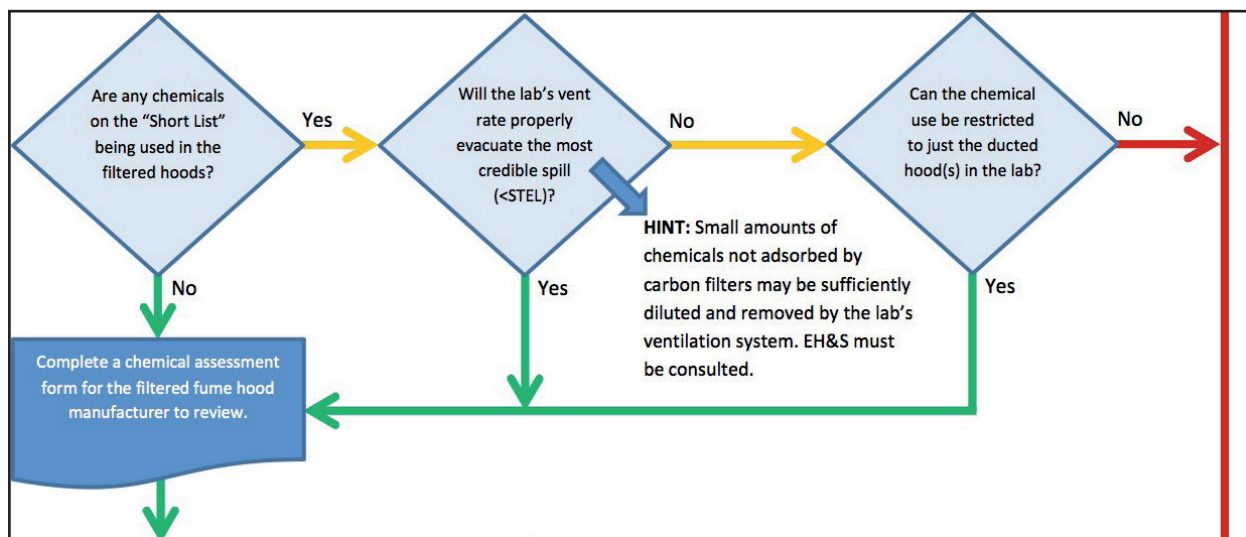

Figure 4: Step 2 - Chemical review
2) Once you have determined that there are operational and/or construction cost savings by using GFH, the next step is to make sure that the chemicals to be used by the researchers, scientists and students will be captured and retained by the GFH filtration technology (see Figure 4).
- a. Review the “short list” of chemicals not captured well by any carbon-based filtration technology. These chemicals are those with very low molecular weights and low boiling points (gaseous at standard temperatures and pressures). They include: Hydrogen, all (6) Noble Gases, Methane, Ethane, Ethylene Oxide, Carbon Monoxide, Carbon Dioxide, Nitrogen Monoxide, Propylene, Propyne, Propane, Acetylene, etc. Fortunately, these chemicals are not commonly used in chemistry labs. If they are used, typically they are in small quantities.
- If the concentration would rise to a hazardous level, or a level high enough to cause other concerns, there is the option of moving this chemical handling to a ducted hood within the lab. Quite commonly, the first hood in the lab is a ducted hood so as to help achieve the minimum ventilation rate required by codes (item 1.a.i above). This single ducted hood could be the location for handling any chemicals on the short list, thereby allowing the remaining hoods to be GFH.